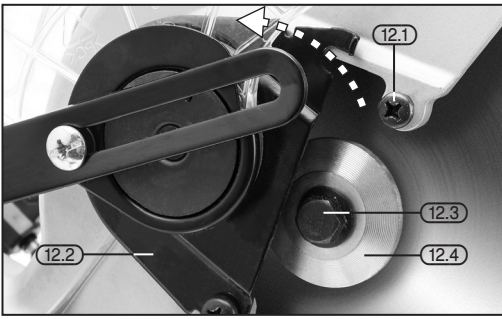

FIG. 20
6.17 BLADE REMOVAL – FIGS. 20 – 21